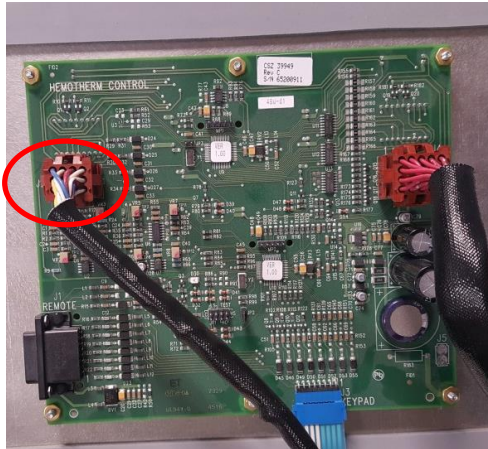

Figure 14
17. Plug in the J2 cable into the control board as shown in Figure 14. Verify that the connections are fully seated.